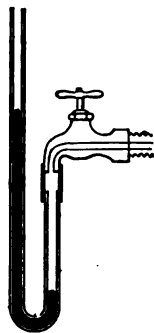

FIG. 67. — Mercury pressure gauge.
**75. How we measure water pressure.** Doubtless we have all found that water flows slowly from a faucet on an upper floor. This is because the water pressure is low there. To measure it, we use some form of **pressure gauge**, and for as small a pressure as this would be, an **open mercury manometer** would be the most accurate form of pressure gauge. It consists of a U-shaped tube filled with mercury, as shown in figure 67.